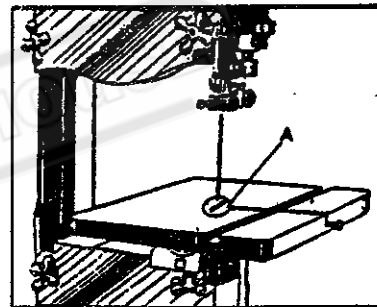

Fig. 14
Place table insert (A) Fig. 14, in the hole provided in the table making sure the pin in the table engages one of the indents in the table insert.
Move table when place table insert(A) Fig. 14 to make sure the blade be in the center of (A).